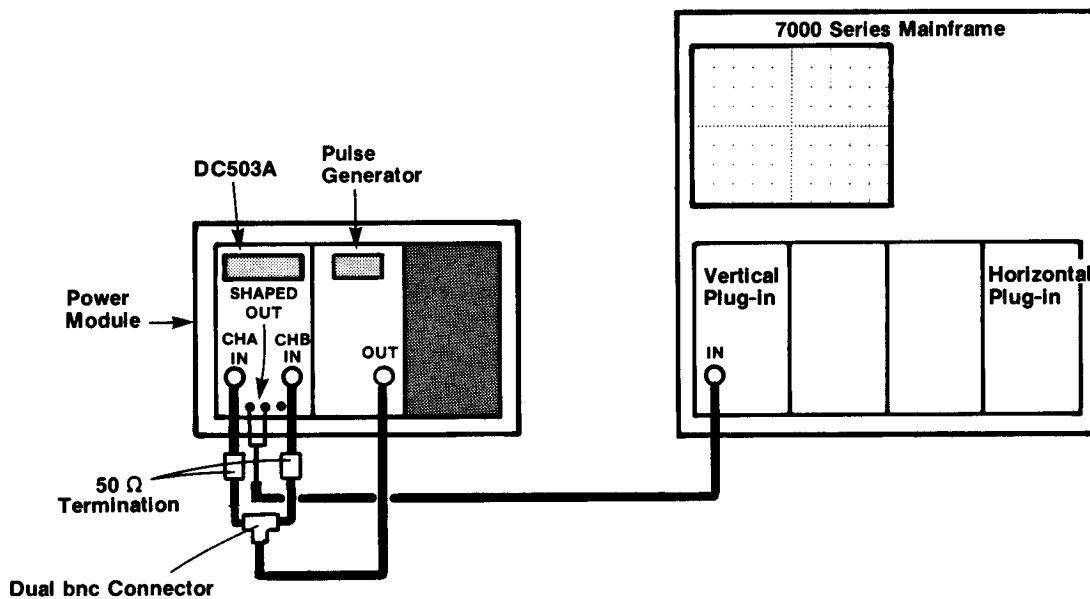

Fig. 4-4. Check set-up for two channel functions.
**16. Check Time A → B Single Shot Minimum Time Interval and Time A → B Average Minimum Time Interval (12.5 ns). Refer to Fig. 4-4 check set-up and the following control settings:**